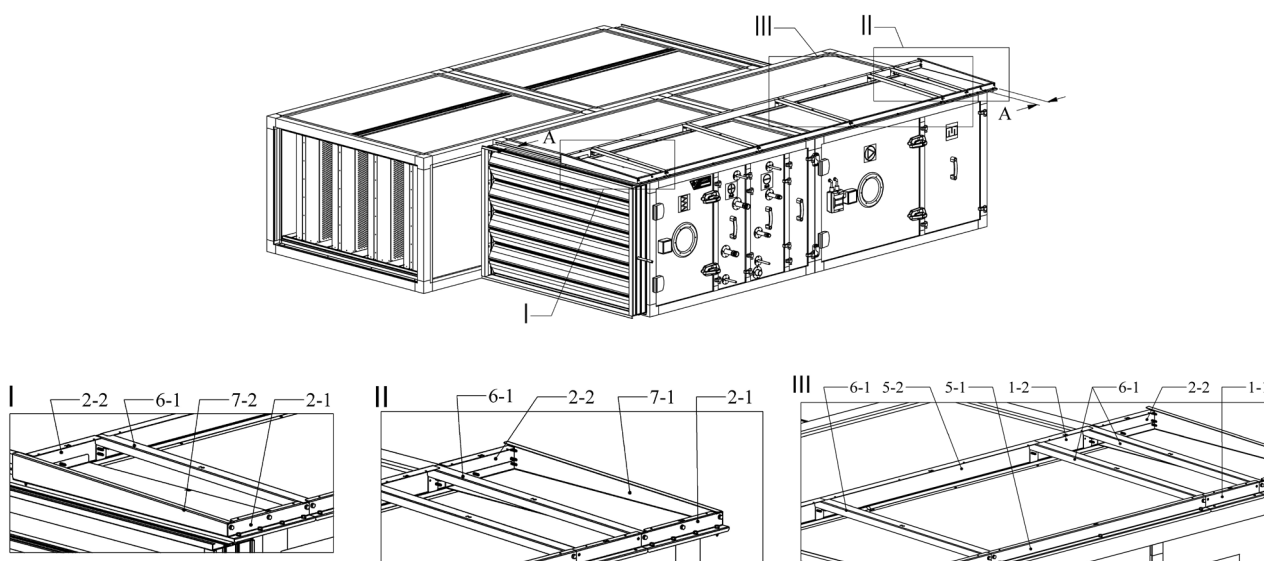

Figure 7.2
2. Connect longitudinal edge supports 2-1, 2-2 to the rear supports 7-1, 7-2 and 6-1-transverse supports using self-tapping screws supplied with the unit as shown in Figure 7.2 (I and II).
supports using self-tapping screws supplied with the unit and connect end-to-end edge supports 2-1, 2-2 as shown in Figure 7.2. (III).
4. The combined entire frame of the details must be centered according to the length of the unit, the distance A must be the same on both sides as shown in Figure 7.2. A distance can be between 50 – 150 mm.